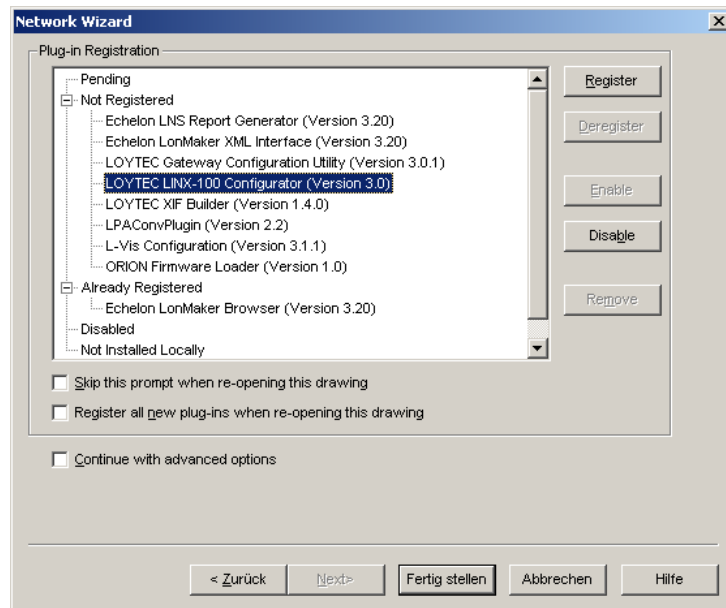

Figure 79: Select the Plug-in to be registered.
2. Click Next until the plug-in registration tab appears in the Network Wizard. Select the **LOYTEC LINX-100 Configurator 3.0** from the list of "Not Registered" (see Figure 79).